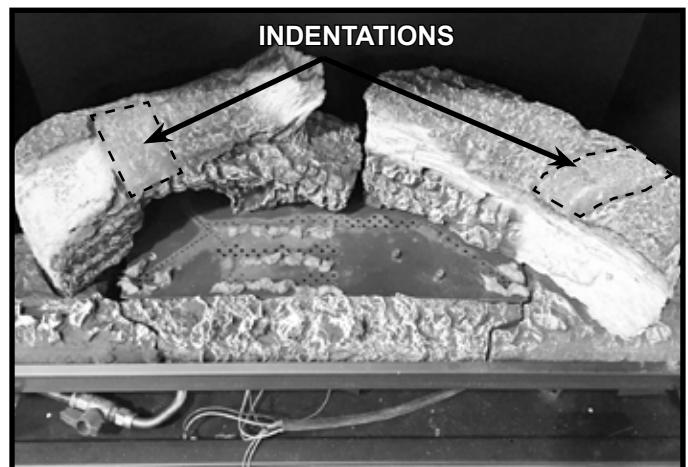
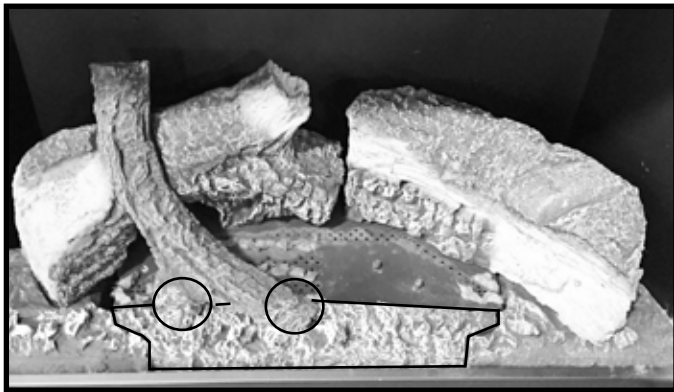
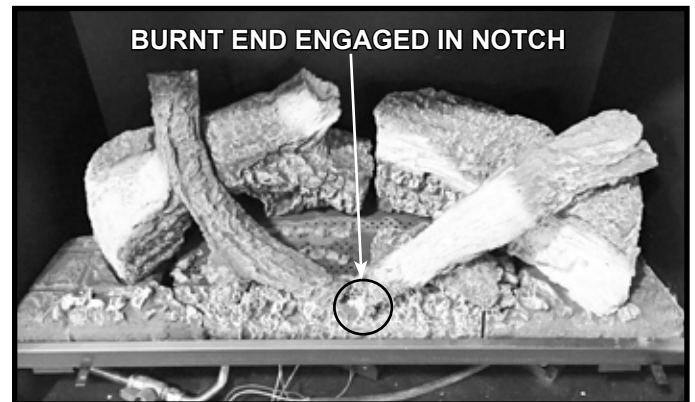

Figure 6. Glowing Embers® Installed
Figure 7. Install Top Left Log
Figure 9. Top Right Log Installed - Log Set Complete
- Top left and top right logs, which lay across the rear left and rear right logs, utilize the “indentations” in the rear left and rear right logs for proper placement. See Figure 6.
4. Remove top left log from packaging. Place the log into the indentation on the left rear log. The indentation is highlighted in Figure 6. The bottom two points of the log will rest on the center hearth component. See Figure 7.
6. Remove right top log from packaging. There is an indentation located in the right rear log which “cradles” the right top log. The indentation is highlighted in Figure 6. The burnt end of the log will engage a notch in the middle hearth component. See Figure 9.